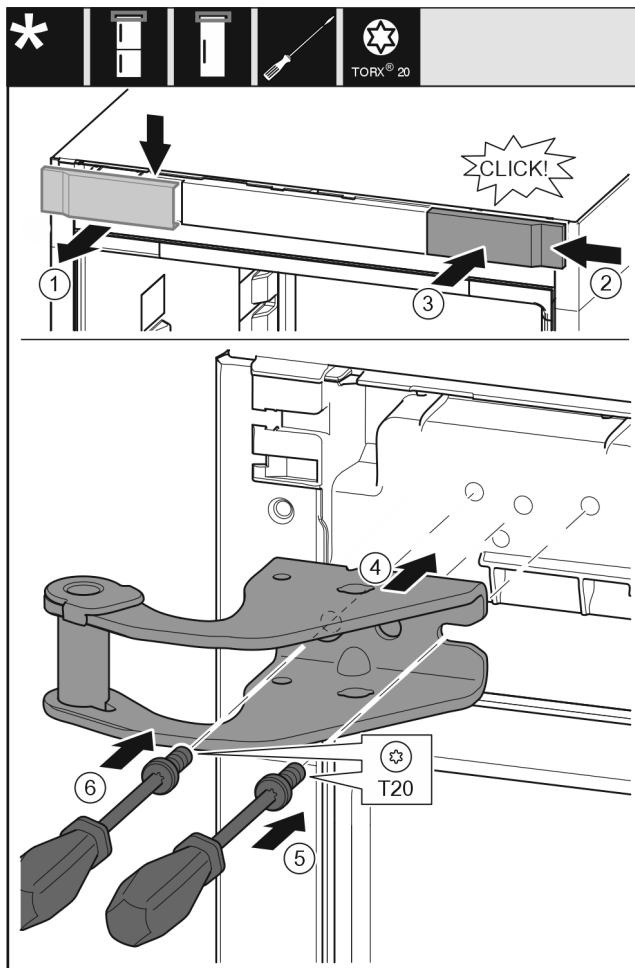

Fig. 29
- ▶ Take off the cover to the front from above. Fig. 29 (1)
- ▶ Rotate the cover 180° and clip onto the other side from the right. Fig. 29 (2)
- ▶ Latch the cover into place. Fig. 29 (3)
- ▶ Position the upper bearing bracket. Fig. 29 (4)
- ▶ Insert the screw with a T20 screwdriver and tighten it. Fig. 29 (5)
- ▶ Insert the screw with a T20 screwdriver and tighten it. Fig. 29 (6)